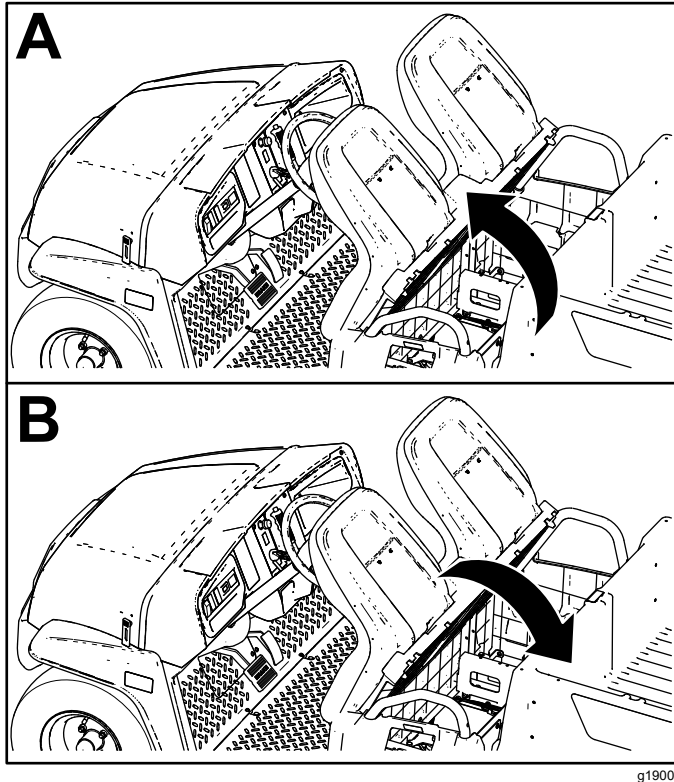

Figure 27
To raise the seat assembly, push the seat assembly forward until it rests on the steering wheel (Figure 27).
To lower the seat assembly, push the seat assembly rearward until it seats back into the original position (Figure 27).
1. Push the seat assembly forward to the raised position (Figure 27).